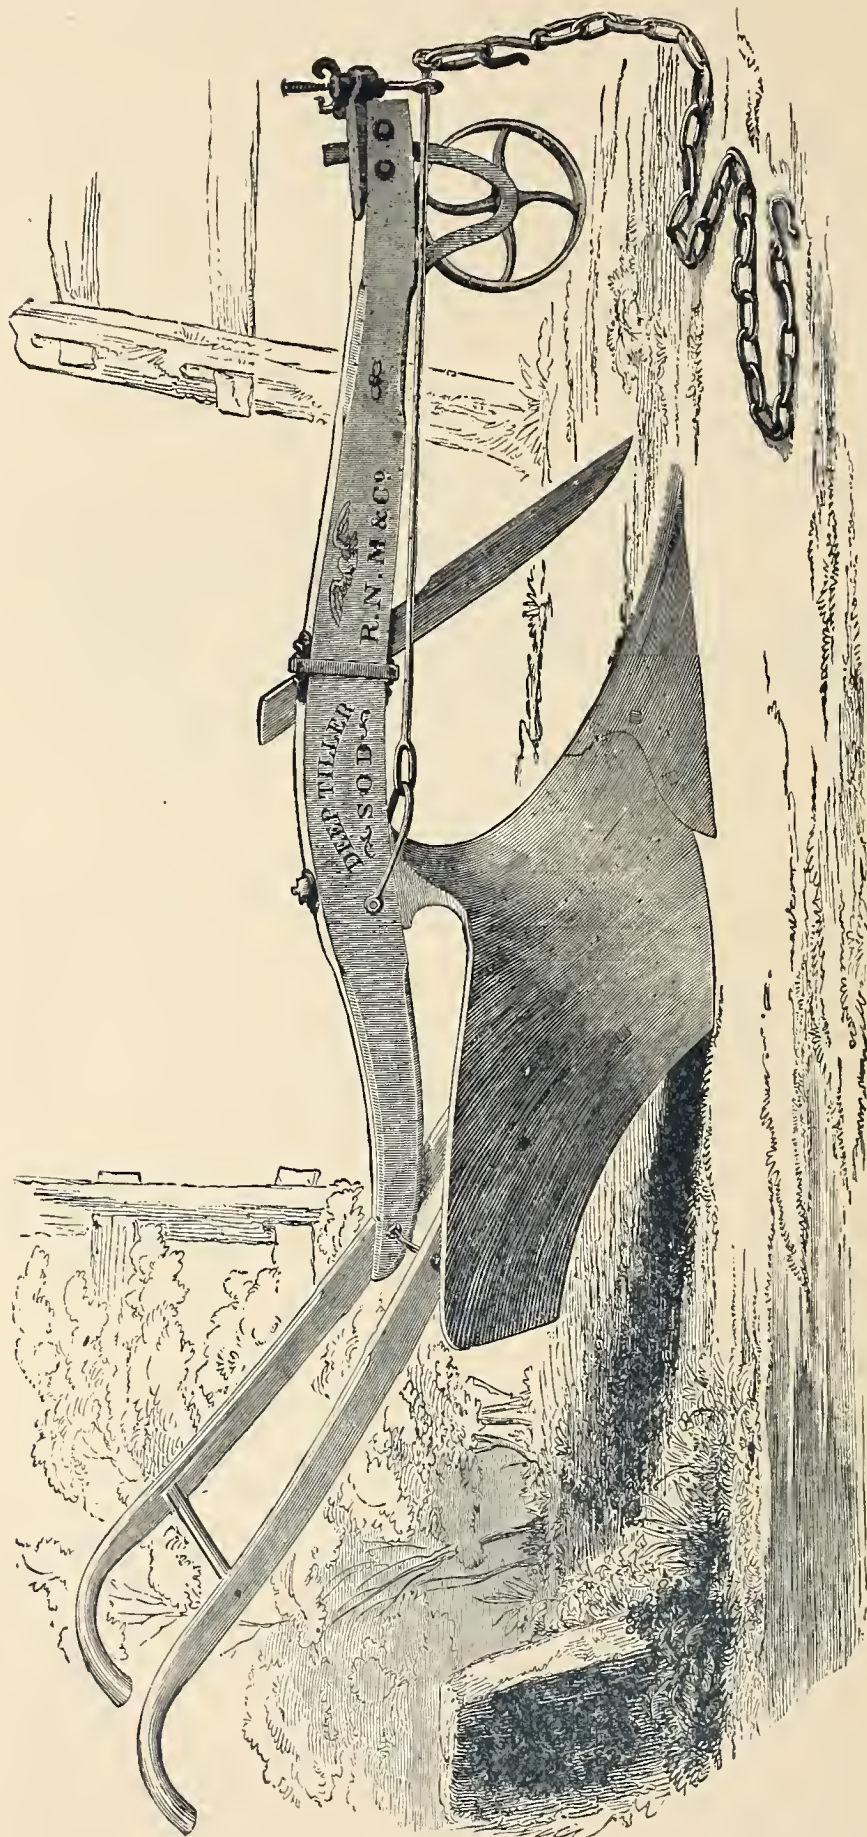

Fig. 257. — Eagle Deep-Tilling Sod Plow, No. 77.
**Eagle Plow, No. 76**, will carry a furrow-slice from eight to eleven inches deep by fifteen to seventeen inches wide, and has great turning-power. It is worked by four to six oxen or horses, according to soil and amount of work to be accomplished. For smooth land, this plow is sometimes trimmed with wheel, eutter, and draft-rod, as shown in *Fig. 257*; while when made with loek-coulter and broad steel share, as shown in *Fig. 250*, it is best adapted for rough field-work, and for making and repairing roads.
**Eagle Plow, No. 77**, a size larger, for six or eight horses or cattle, is shown by *Fig. 257*, and is of same general construction as the No. 76, and performs in proportion to size, working from nine to twelve inches deep by sixteen to eighteen inches wide. It is usually rigged with wheel, eutter, and draft-rod.